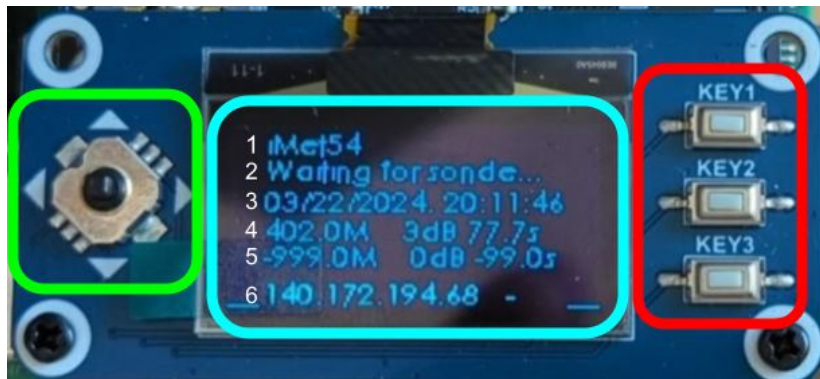

Fig. 7. OLED Interface
The OLED board sits directly on top of the RTC board and provides a physical interface to the receiver if the web interface is unavailable or if manually changing it is more convenient. The screen displays the most important information from the web interface, allowing the user to control the Sonde-Pi entirely from the OLED with the exception of being able to access the flight data. The example screen in Figure 7 highlights the three major components of the OLED. The description of each numbered line in the cyan box can be found below:
- 5) **Radio 2 Status:** This line displays the same information as the previous line. In the case of Figure 7, -999.0M, 0dB, and -99.0s indicates that only one SDR is plugged into the Raspberry Pi.